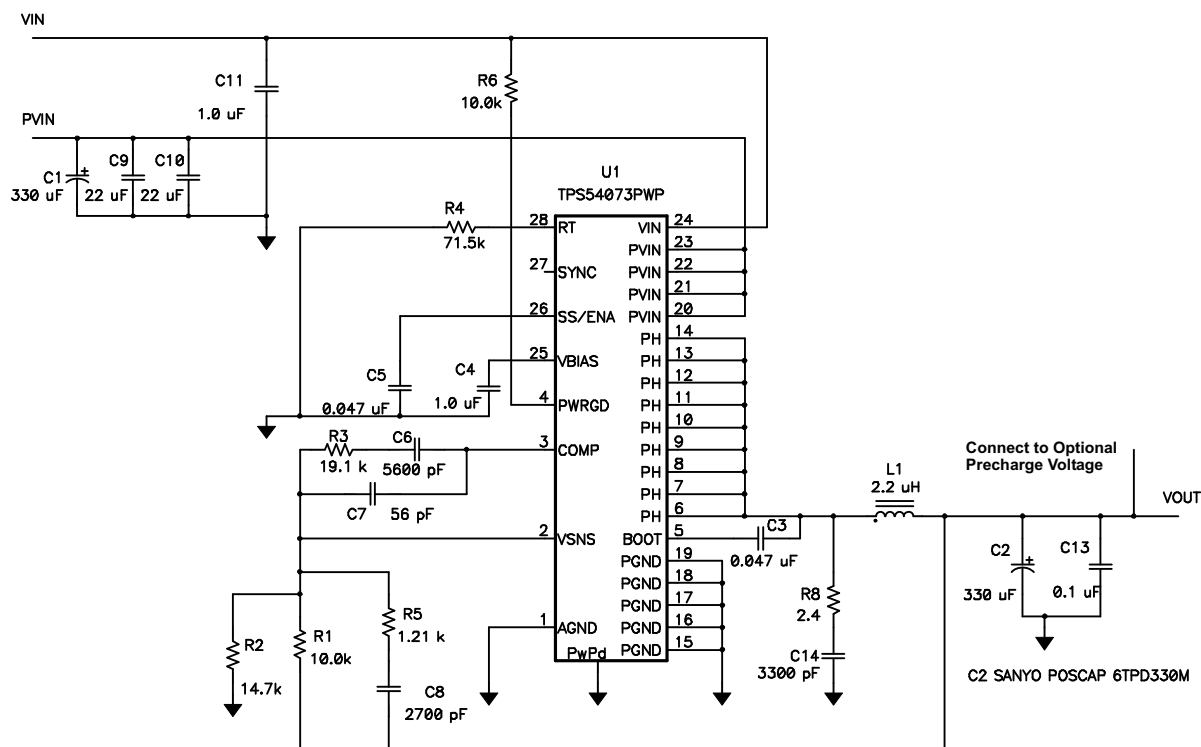

Figure 12. Application Circuit, 3.3 V to 1.5 V
(1) Specified by design
(2) Static resistive loads only
(3) Specified by the circuit used in Figure 12
Figure 12 shows the schematic for a typical TPS54073 application. The TPS54073 provides up to 14-A output current at a nominal output voltage of 1.5 V. Nominal input voltages are 3.3 V for PVIN, and 3.3 V for VIN. For proper thermal performance, the exposed PowerPAD underneath the device must be soldered to the printed-circuit board.